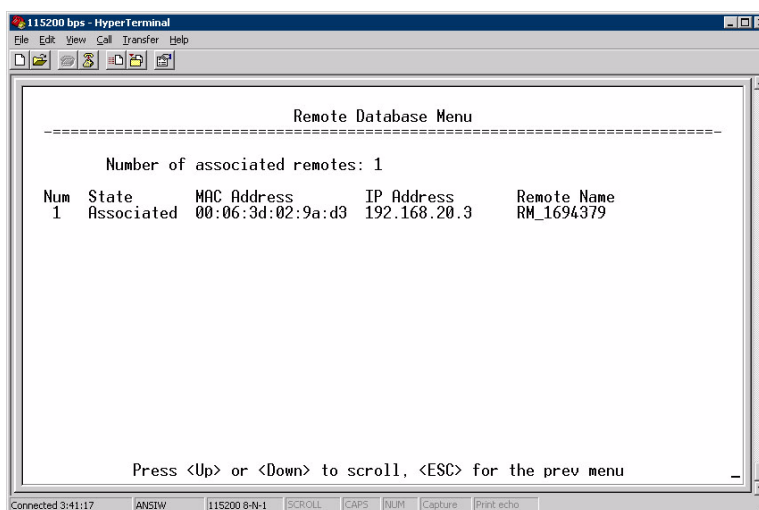

Figure 3-93. Remote Database Menu
- **Remote Database (AP Only)**—Displays a submenu where associated Remotes are listed in table form according to their number, operational state, MAC address, IP address, and name (if assigned). (See Figure 3-93 on Page 121.)